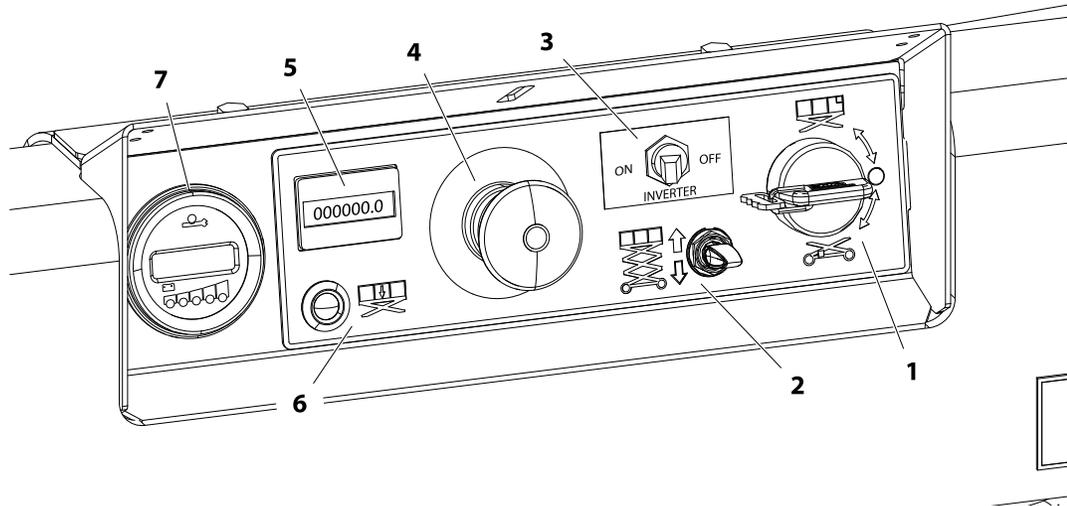

Figure 3-2. Ground Control Station
- 1.** From the **Ground Control Panel** with no load in the platform: *(See Figure 3-2. on page 3-5)*